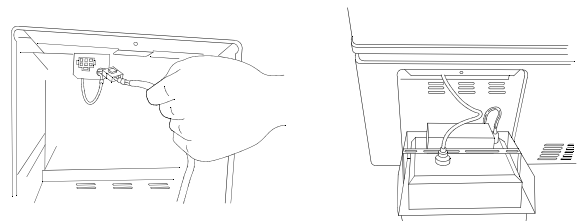

Fig. 6
4. Join the wire in the unit compartment with the recorder wire by each wire connector. See Fig. 6